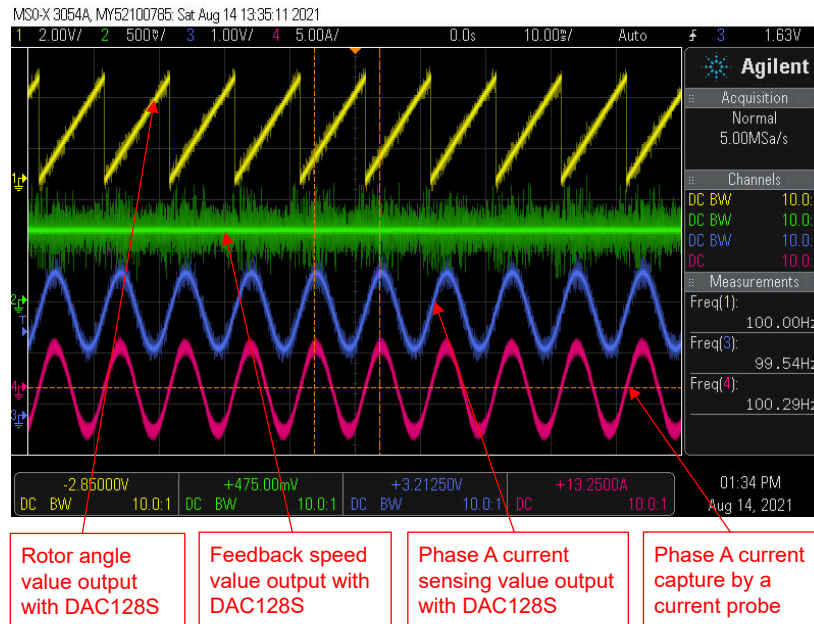

Figure 2-42. Build Level 4: Rotor Angle with FAST, Phase Current Waveforms at Forward Move
- d. Use PWMDAC or DAC128S module to display the monitoring variables as described in Section 2.4.2 or Section 2.4.3. The motor angle and current waveforms are shown in Figure 2-42.
Use DAC128S085EVM with an oscilloscope to monitor rotor angle of the motor from the FAST estimator, feedback speed of the motor, and a phase current of the motor as shown in Figure 2-42 when the motor is running at forward rotation by setting `motorVars_M1.speedRef_Hz` to a positive reference value.